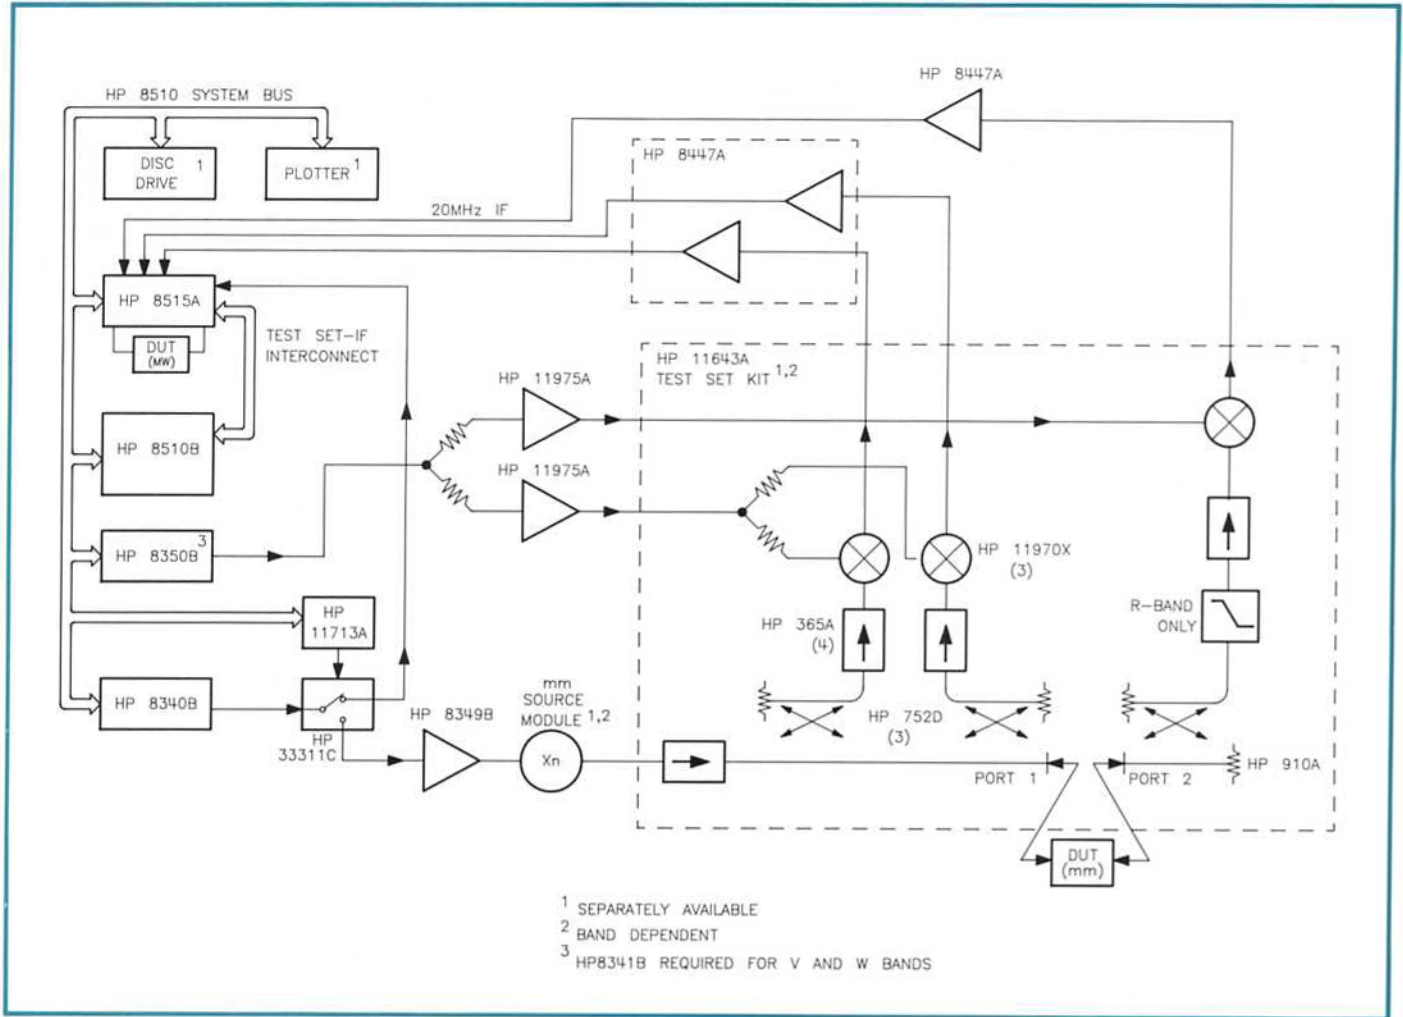

Figure 4. Block diagram of millimeter-wave/microwave HP 8510B system.
Also recommended is an RF switch to switch the RF test signal source from the synthesizer to the input of the HP 8515A test set. Using this configuration (see Figure 4), the system may be easily switched from millimeter-wave to microwave test set operation without changing rear panel connections. This configuration is used in the HP 85106A option 001.
1. Disconnect the millimeter-wave test set and connect the coaxial test port cables. Configure the test set and switching hardware as shown in Figure 4. Notice that the HP 8515A test set must be configured with option 001 (IF switching). The HP 85106A system with option 001 includes the test set already configured this way.